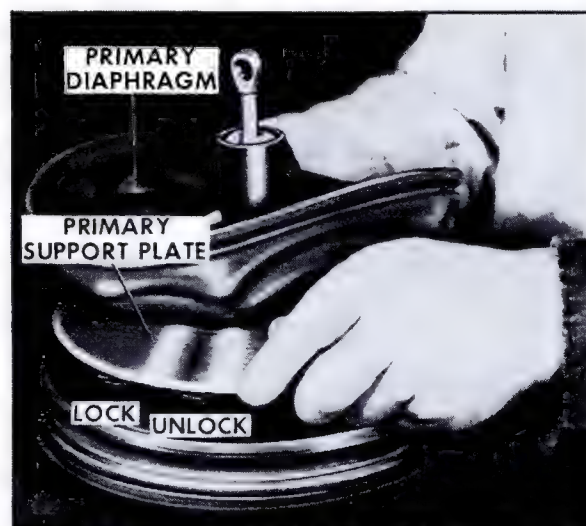

Fig. 5-38 Loosening Power Pistons
11. Fold back primary diaphragm from the outside diameter of the primary support plate. Grip the edge of the support plate and rotate counterclockwise to unscrew the primary power piston from the secondary power piston, Fig. 5-38.
31. Grip the edges of the secondary support plate, press down, and rotate counterclockwise until the tabs on the secondary power piston contact the stops on the support plate, Fig. 5-38. Fold the secondary diaphragm back into position on the secondary support plate. Leave the secondary power piston assembly on Tool J-23101 in the vise.
41. Grip the edge of the primary support plate, press down, and start the threads on the secondary power piston into the threaded portion of the primary power piston by rotating in a clockwise direction, Fig. 5-38.